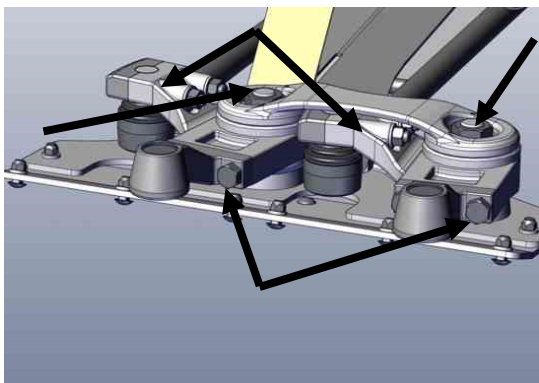

Figure 143
3. Remove the knife head bearings by removing the bolts. Figure 143. Note the location of any shims behind the knife head bearings.